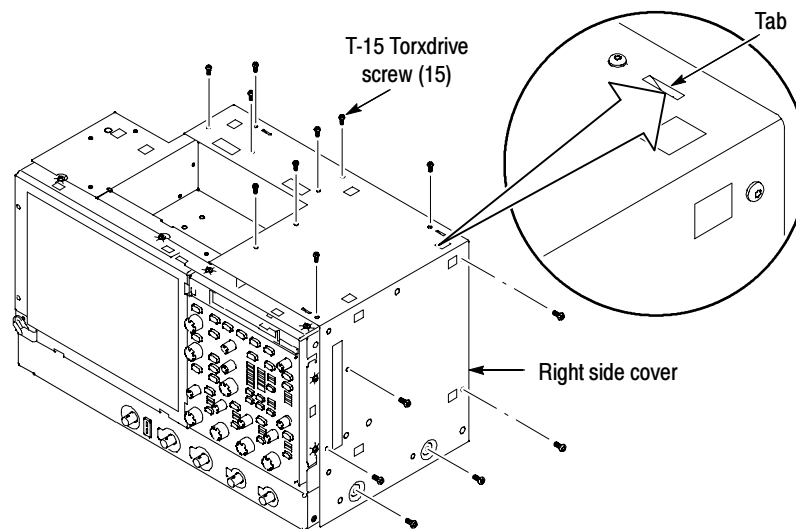

Figure 6: Right-side cover removal
1. *Remove the right-side cover:* See Figure 6.
3. Remove the fifteen T-15 Torxdrive screws that secure the right-side cover to the top and right sides of the chassis. See Figure 6.